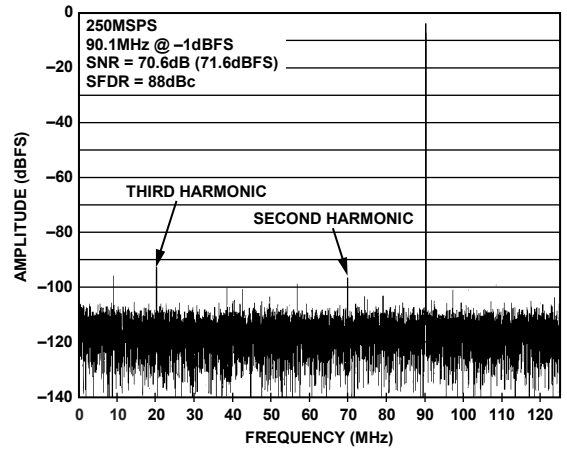

Figure 16. Typical FFT, AD9643
3. Click the **Save** disk icon within the **Graph** window to save the performance plot data as a .csv formatted file. See Figure 16 for an example.